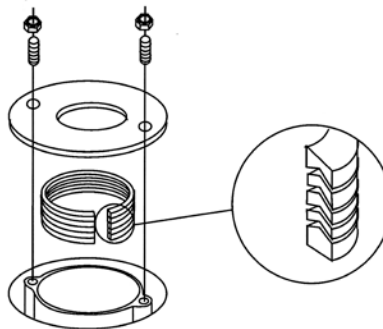

Figure 2
| Figure 2 – Packing Ring Arrangement - - - - - | 7 |
- 5 Install the packing and gland as shown in Figure 2. Install the packing one ring at a time.